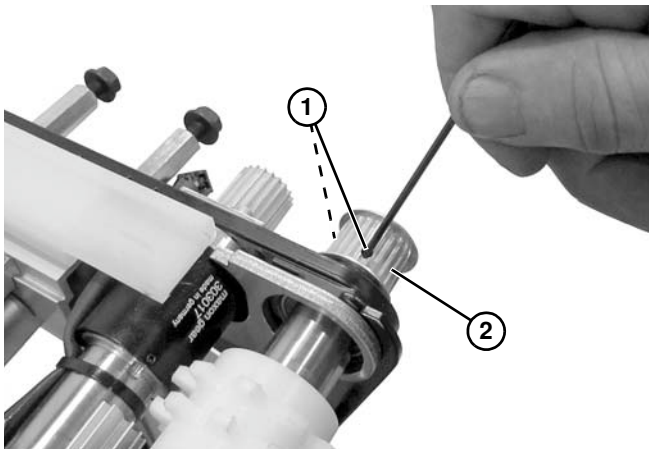

Figure 66
8. Loosen two set screws (**Figure 66, item 1**) on driven pulley (**Figure 66, item 2**), and slide off of shaft to remove.